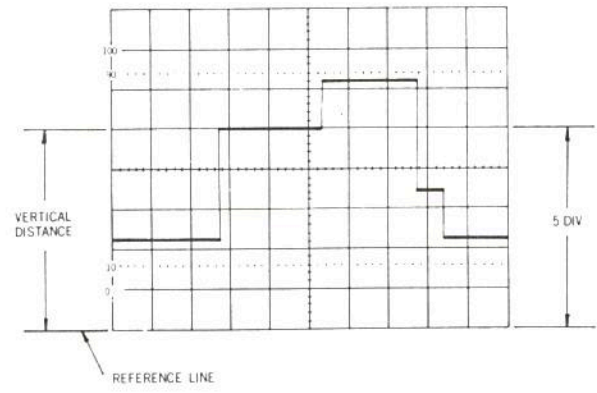

FIGURE 2-8. INSTANTANEOUS VOLTAGE MEASUREMENTS
2. Adjust the TIME/DIV switch (22) or (23) for one complete cycle of waveform and set the VOLTS/DIV switch for a trace amplitude of 4 to 6 divisions (see Figure 2-8)
3. Flip the AC/GND/DC switch (11) or (12) to GND.
4. Use the appropriate Vertical POSITION control (17) or (18) to set the baseline on the central horizontal graticule line. However, if you know the signal voltage is wholly positive, use the bottommost graticule line. If you know the signal voltage is wholly negative, use the uppermost graticule line.
6. Use the Horizontal POSITION control (26) to position any point of interest on the central vertical graticule line. This line has additional calibration marks equal to 0.2 major division each. The voltage relative to ground at any point selected is equal to the number of divisions from that point to the ground-reference line multiplied by the VOLTS/DIV setting. In the example used for Figure 2-8, the voltage for a 0.5V/div scale is 2.5V (5.0 div \times .5V).